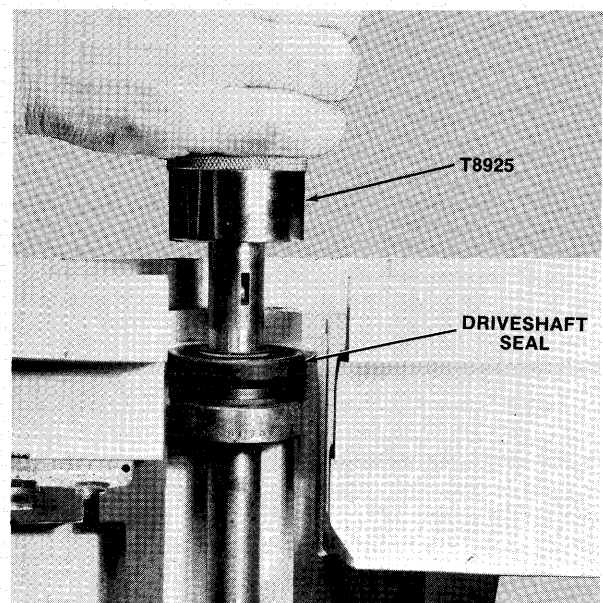

Figure 6—Installing Driveshaft Seal
- E. Apply grease (Special Tool T2961) between sealing lips of driveshaft seal. Slide seal down driveshaft with garter spring out or towards water pump, on top of seal bore in gear housing—upper. Slide seal installer (Special Tool T8925) down driveshaft. Using seal installer as a slide hammer, press seal in bore until top of seal is flush with top of seal bore as shown in figure 6.